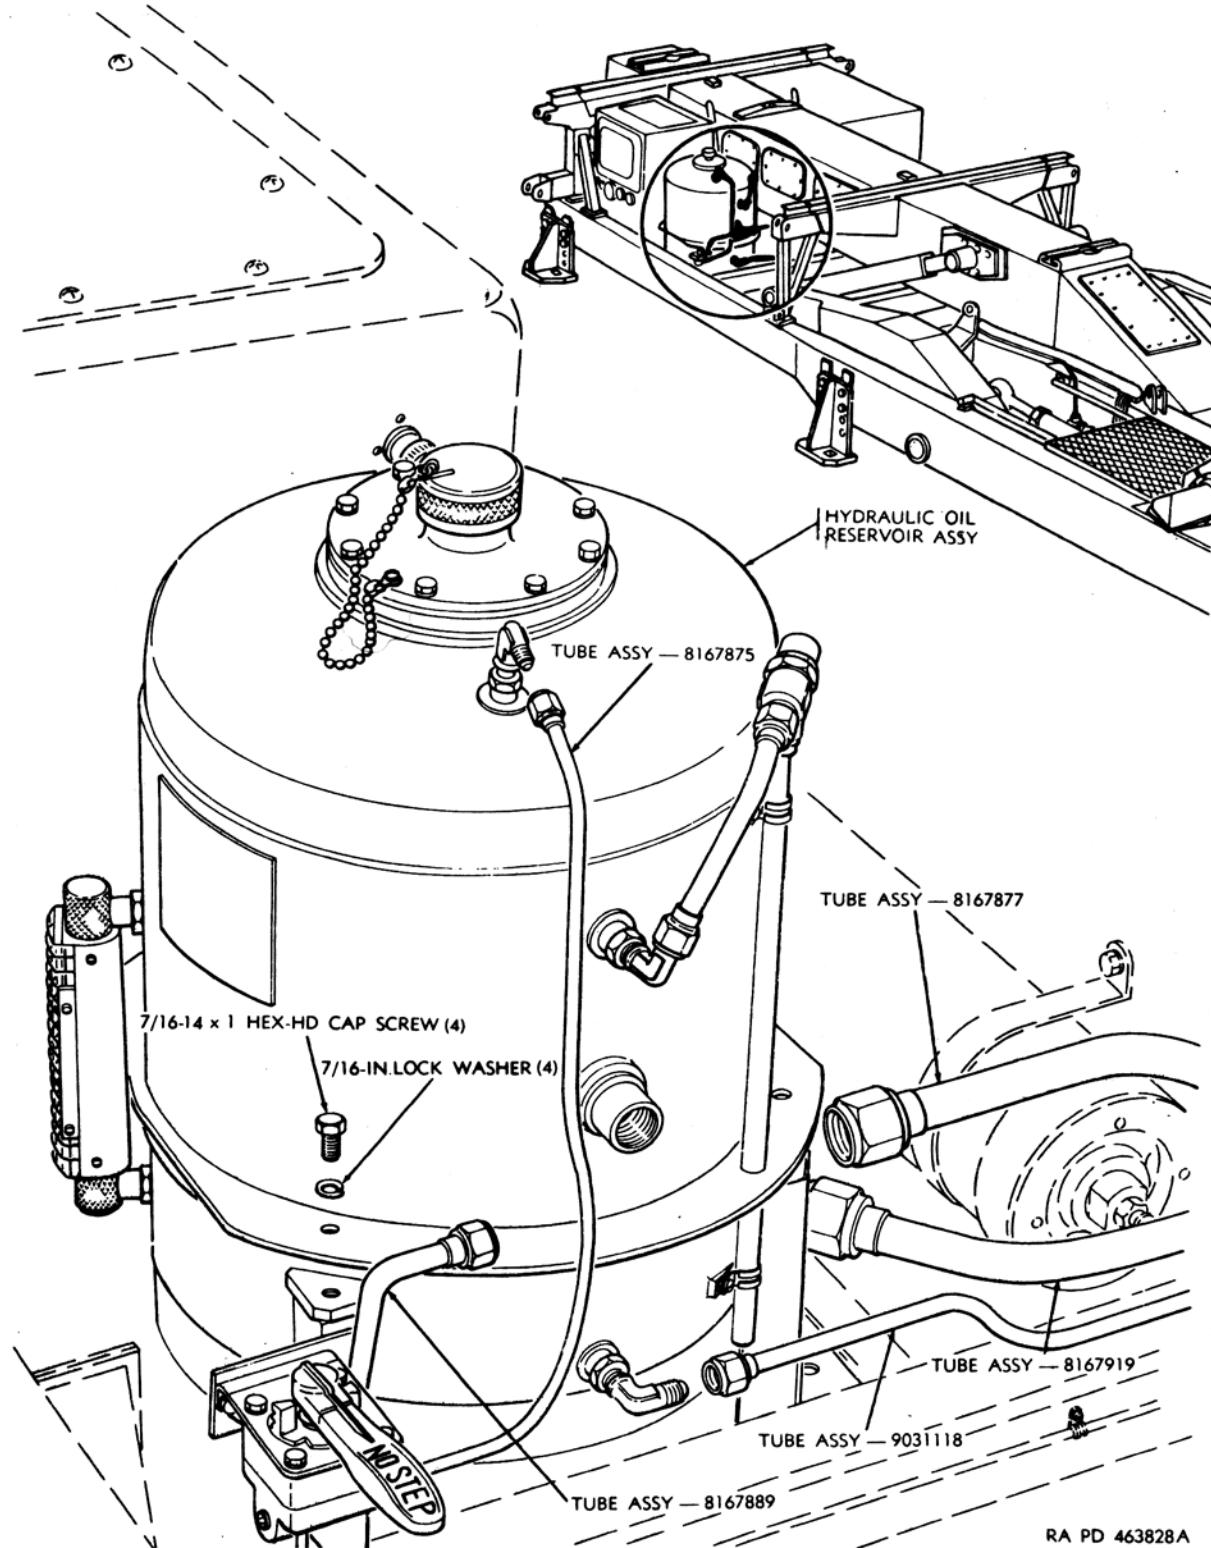

Figure 162. Hydraulic oil reservoir assembly—removal and installation.
Note. The extent of maintenance required on the hydraulic oil reservoir assembly (fig. 162) determines whether its removal is necessary.
(b) Drain the hydraulic oil reservoir assembly (fig. 162) as described in a above.
- (c) Remove tube assemblies—8167875, 8167877, and 9031118 (fig. 162), disconnect tube assemblies—8167919 and 8167889. Cap all open lines.
- (e) Remove the reservoir assembly (fig. 162).
(2) Installation.
- (a) Position and install the hydraulic oil reservoir assembly (fig. 162).
- (d) Install and connect tube assemblies (fig. 162) and torque coupling nuts to values specified below: